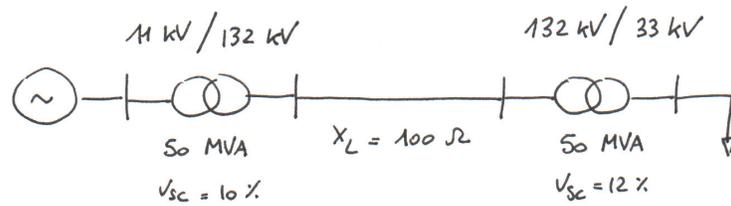

Figure E.5
E.5. Figure E.5 shows a three-phase radial distribution system. The load at the end of the feeder consume 50 MW with 0.8 lagging power factor. What is the value of the voltage at the generator bus required to keep the voltage on the load equal to 30 kV? Determine also the power factor of the generator in the operating conditions determined above.